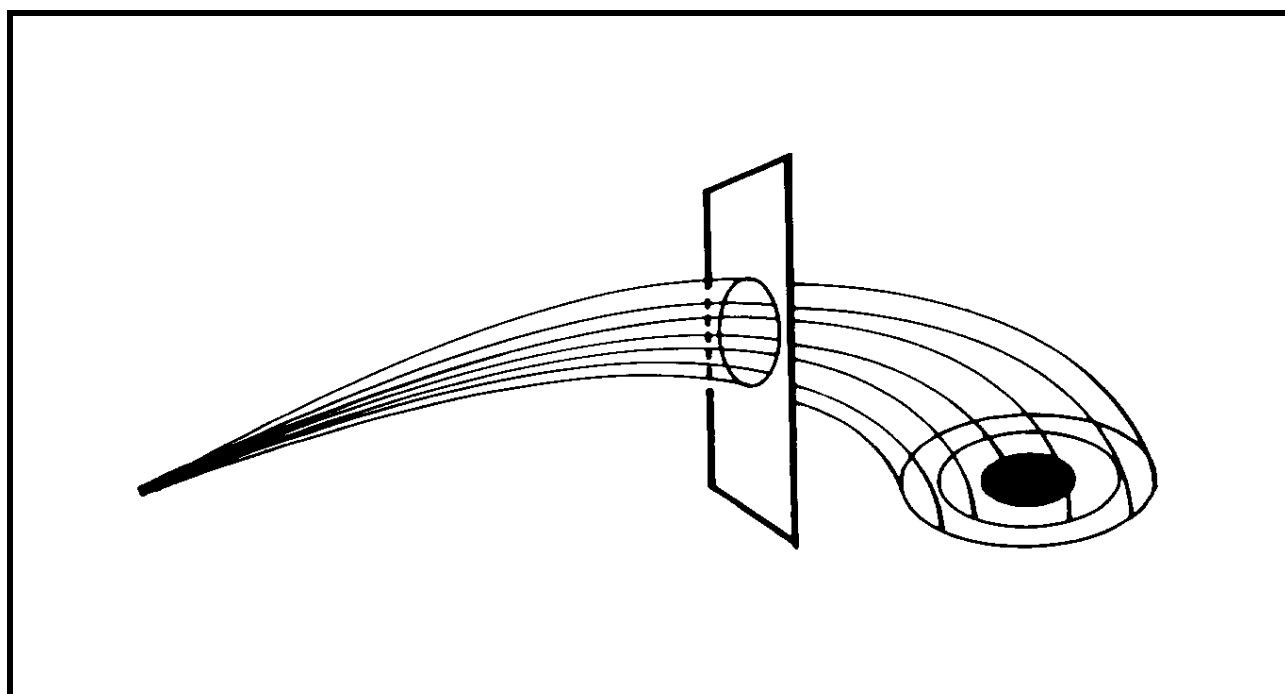

Figure 2-2 Cone of Fire
- a. **Cone of Fire.** When a burst is fired, the vibration of the gun, as well as variations in ammunition and atmospheric conditions, give each bullet a slightly different trajectory. As the burst strikes a vertical target, the shots form an elongated oval-shaped pattern with the density decreasing toward the edges (see Figure 2-2).